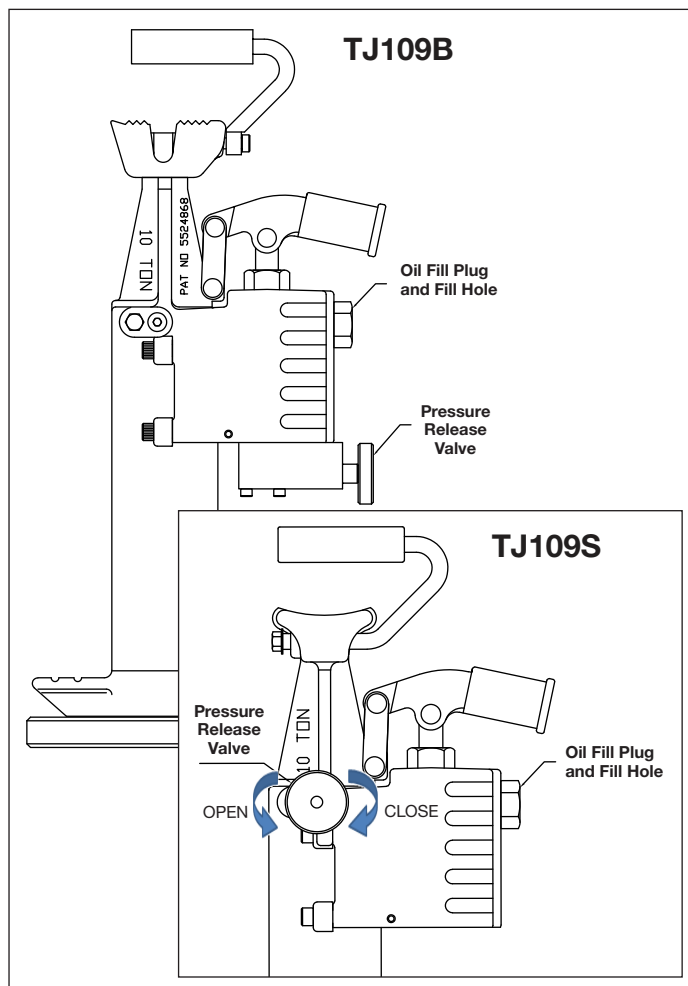

Figure 4, Oil Fill Plug and Pressure Release Valve
2. Close the pressure release valve by turning it clockwise, until it is hand tight. DO NOT OVERTIGHTEN! See Fig. 4 for location.
3. Remove any dirt or dust from the area around the oil fill plug. Unscrew and remove the oil fill plug. See Fig. 4. for location.
3. Remove the oil fill plug. See Fig. 4 for location.